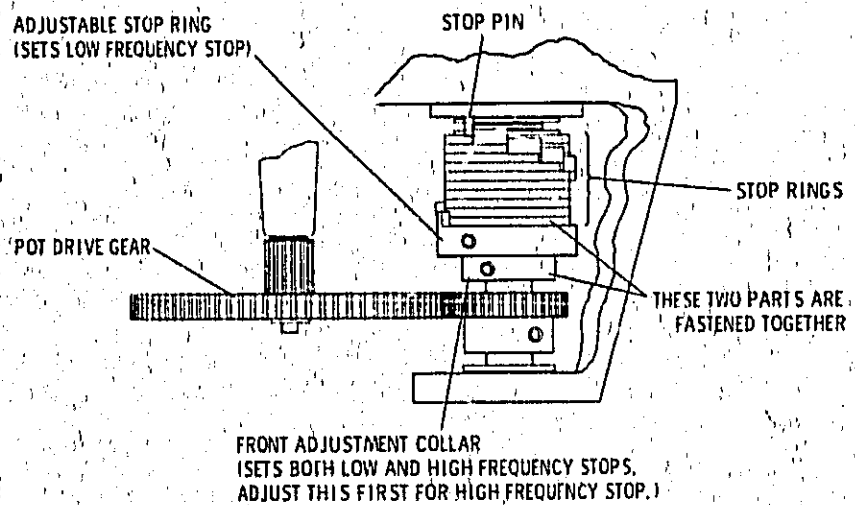

Figure 5-5. Locations of RF Oscillator Stop Adjustments Shown in Maximum CCW Position. Top View with Instrument Upside Down.
5. Tune FREQUENCY TUNE fully cw! Compare the position of the stop ring teeth with Figure 5-5.